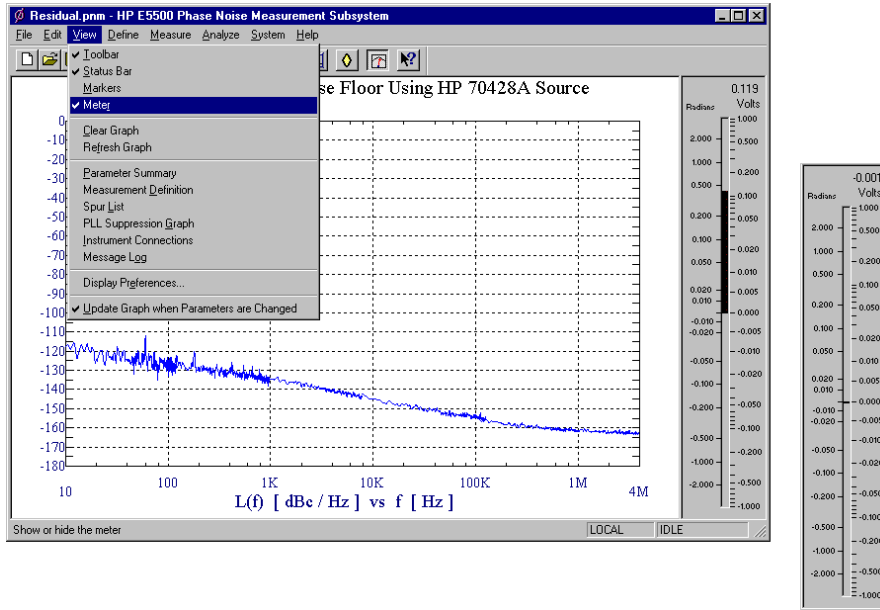

Figure 8-8 Adjust for Quadrature
- 7** After you complete the measurement set up procedures and begin running the measurement, the computer will prompt you to adjust for quadrature (Figure 8-8). Adjust the phase difference at the phase detector to 90 degrees (quadrature) by either adjusting the test frequency or by adjusting an optional variable phase shifter or line stretcher. Quadrature is attained when the meter is set to center scale, zero.